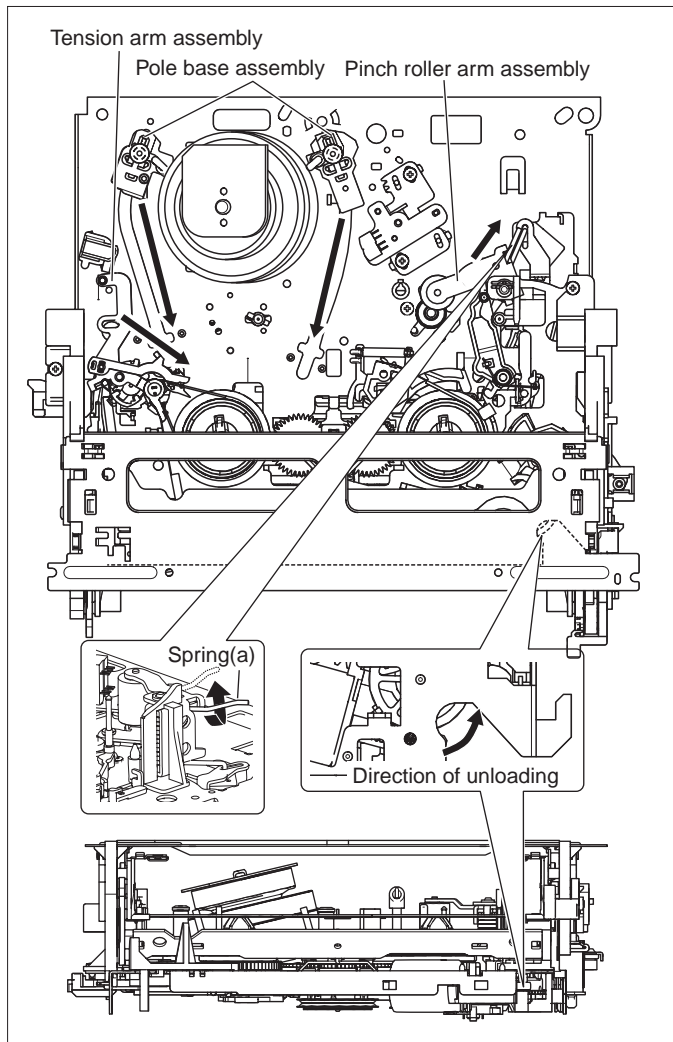

Fig. 1-1b
- (3) Unload the pole base assembly by manually turning the gear of the loading motor until the pole base assembly is hidden behind the cassette lid. In doing so, hold the tape by the hand to keep the slack away from any grease. (See Fig. 1-1b.) In case of mechanical failures, while keeping the tension arm assembly free from tension, pull out the tape on the pole base assembly. Take the spring(a) of the pinch roller arm assembly off the hook, and detach it from the tape.
- (4) Remove the screw (a) of the side frame (L/R).
- (5) Hold the slack tape and cassette cover together, lift the cassette tape, top frame, cassette holder and side frames (L, R) together from the rear and remove them by dis-engaging the hooks (a) and (b).